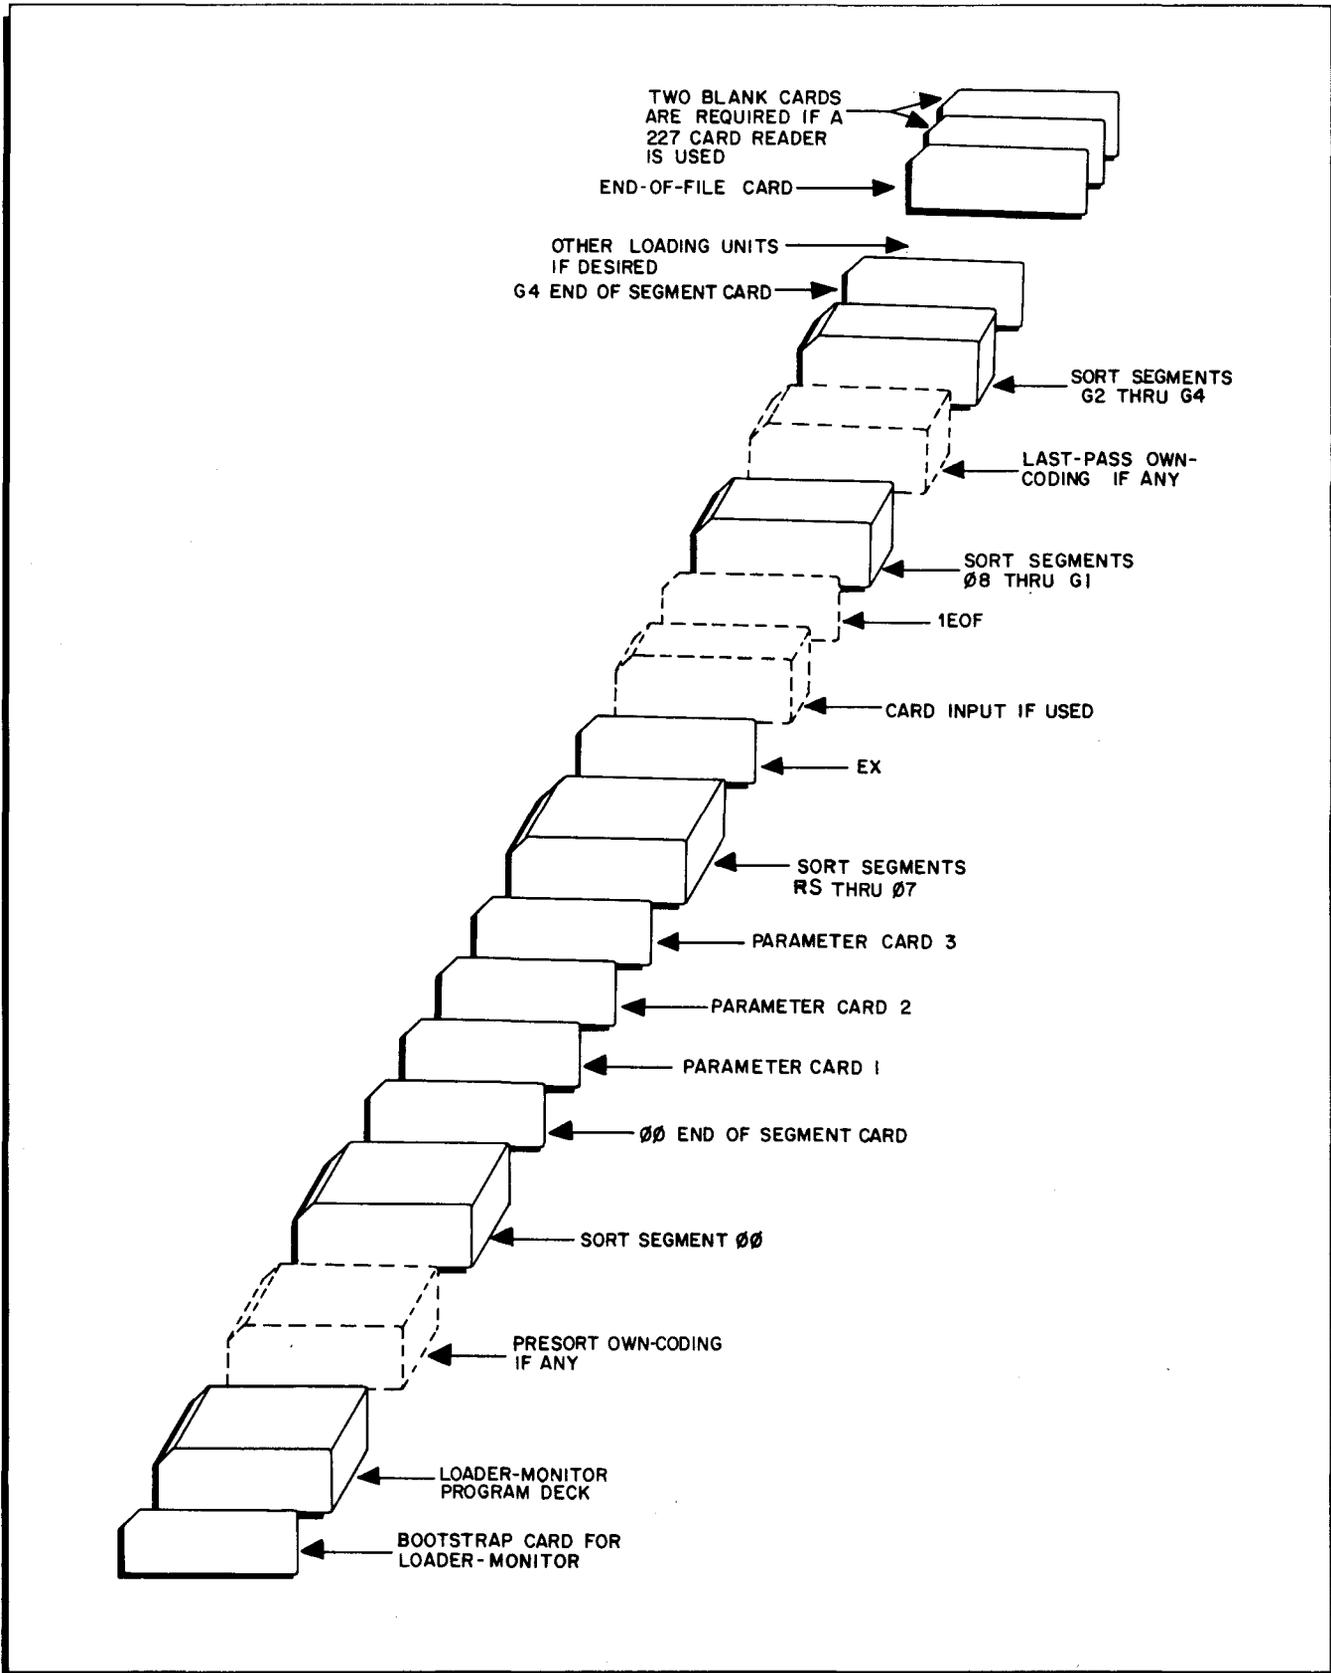

Figure 3. Suggested Program Deck Format for Loading the Sort C
The procedures given below assume that the Card Loader-Monitor B has already been loaded into memory and is awaiting a call (17002 is contained in the B-address register).¹ If the program executed before the sort did not enter the parameters, the parameters can be punched on three cards and inserted between sort segments 00 and RS (segments P0 and P1 for Sort C(V)) in the program deck. The parameters are placed after the end-of-segment card for 00 (or P0 which contains an X4(M) punch in column 1. A suggested format for the object program deck is shown in Figure 3.
NOTE: In the card decks shown in Figures 3 and 4, the punched configuration in card column 1 can be used to differentiate the program segments as follows: